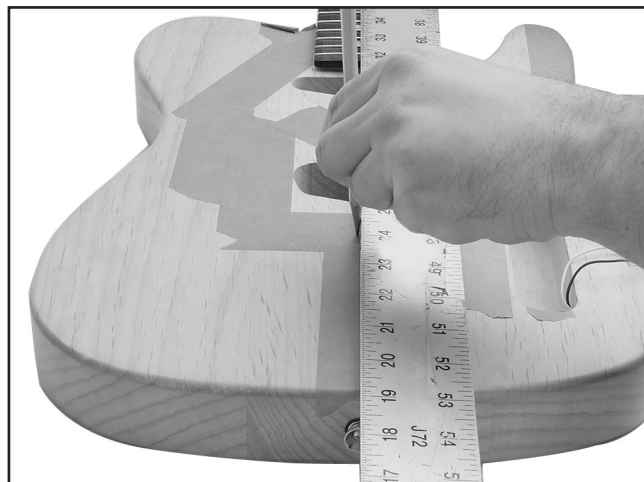

Figure 14. Marking center line.
4. Place a 36" long straightedge over the center of the fretboard inlays and over the bridge cavity, then mark the center line on the guitar body (**Figure 14**).